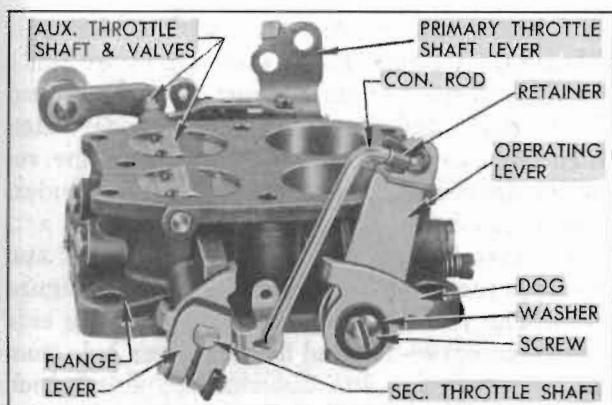

Figure 3-51—Throttle Parts on Body Flange
20. Push retainer off upper end of the throttle connector rod, then remove rod from the primary and secondary throttle shaft lever. See figure 3-51.
21. Remove screw, washer, dog, and operating lever from primary throttle shaft, and remove operating lever from secondary throttle shaft. See figure 3-51.
8. Install operating lever, dog, washer, and screw on primary throttle shaft, then install throttle connector rod and retainer as shown in figure 3-51.